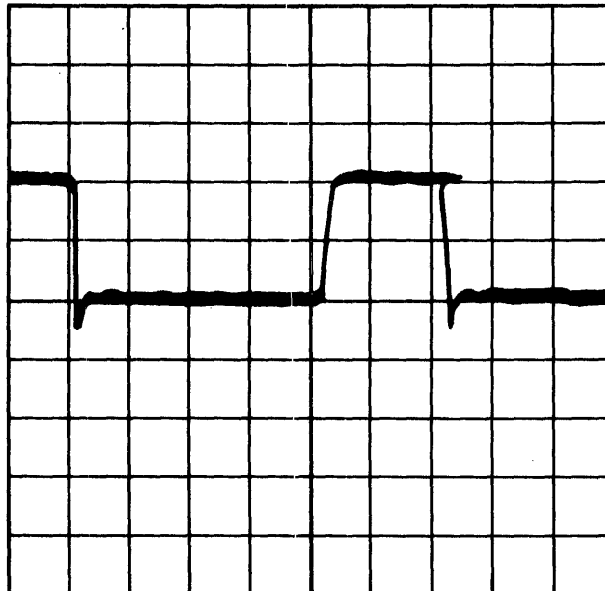

Figure 5-42. Data Separator Optimum
- N. Calculate the mid-point of time between the step K and step M times. Adjust the pulse width potentiometer for a pulse width equal to this calculated time as shown in Figure 5-42.